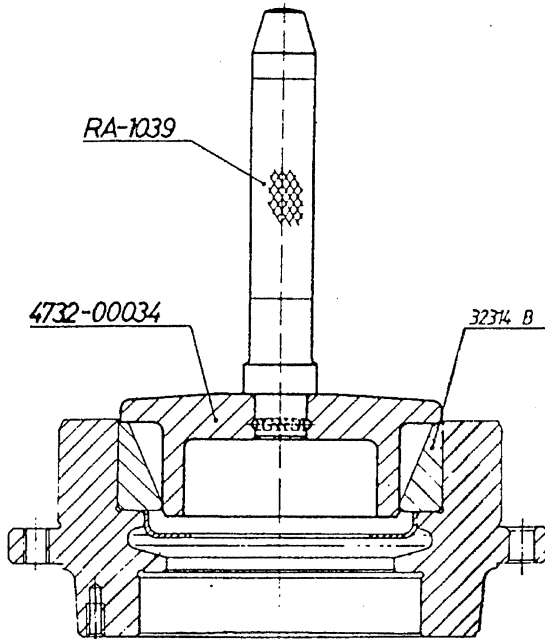

Fig. 4.: DRIVING IN THE CUP OF THE OUTER TAPER ROLLER BEARING
Position the oil baffle plate (43) and the cup of the inner taper roller bearing (12) and by means of the tools shown drive into the bearing cage (Fig. 4.).